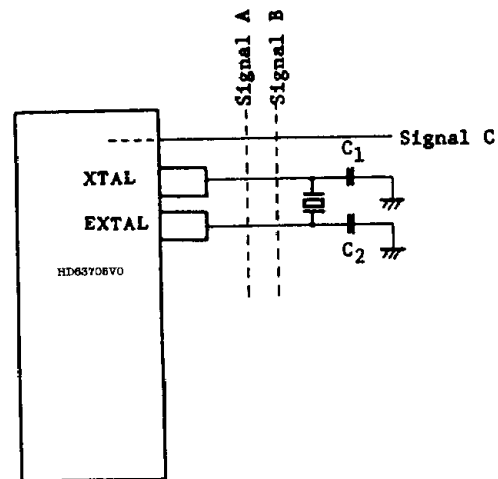

Figure 41 Example of Circuit Causing Trouble in Oscillation
- (1) Locate crystal, ceramic resonator, and load capacity C_1 and C_2 as near the LSI as possible. (Induction of noise from outside to the XTAL and EXTAL pins may cause trouble in oscillation.)
- (2) Wire the signal lines to the neighboring XTAL and EXTAL pins as far apart as possible.
- (3) Board design of situating signal lines or power supply lines near the oscillator circuit as shown as Figure 41, should not be used because of trouble in oscillation by induction. The resistor between the XTAL and EXTAL, and pins close to them should be $10M\Omega$ or more.